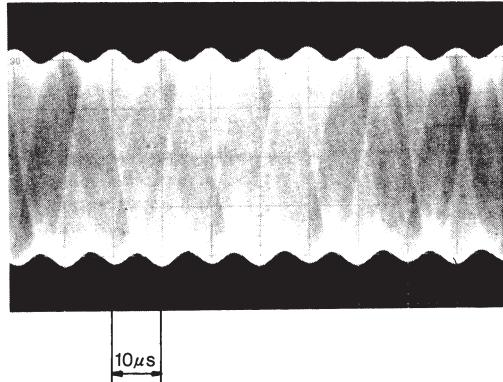

Fig. 6
- ⑤ When the VR-1 volume is set near the center and the scale is moved, the waveform shown in Fig. 6 appears. At this point, adjust the VR-3 volume to minimize the envelope ripple. Then, finely adjust the VR-1 volume to minimize the envelope ripple.